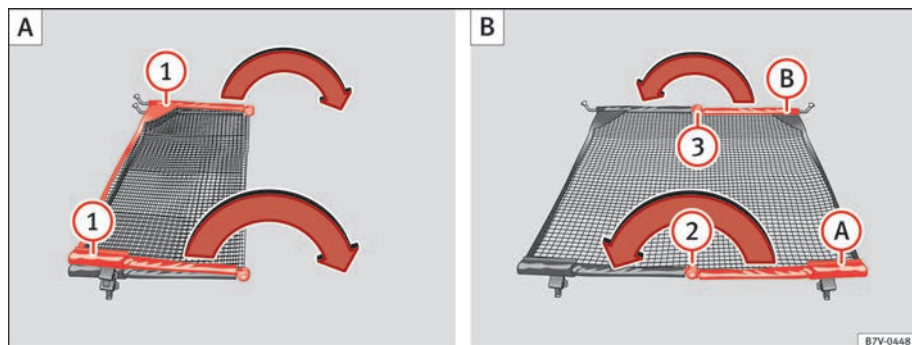

Fig. 93 Unfold the net partition ① then fold it again ② and ③.
Fold out the support transversal rods ⇒ fig. 93 ① for the net partition fully in the direction of the arrow until you hear a “click”.
- Press on the release button \Rightarrow fig. 93 **(2)** and bend the rod **(A)** in the direction of the arrow with the release button pressed.